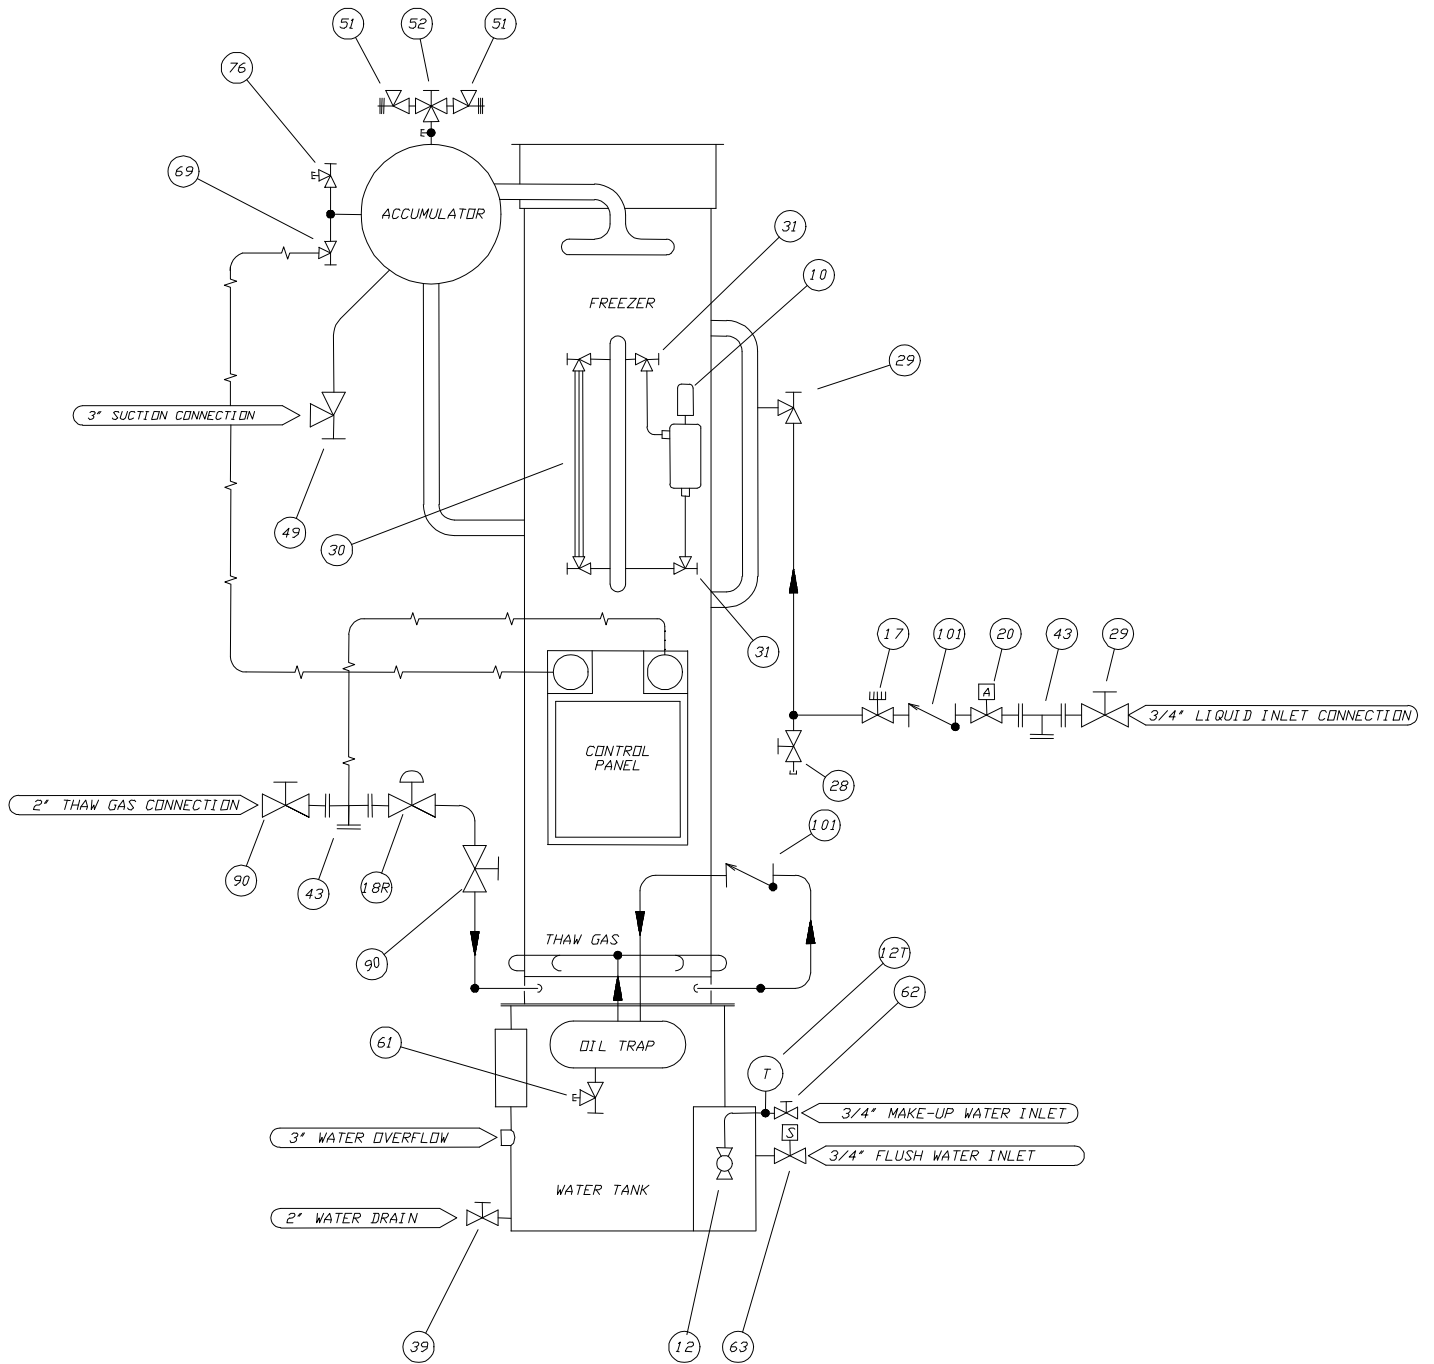

FIGURE 4-1
Operating Features. Your Tube-Ice[®] low side machine is an efficient ice producing plant. If installed and maintained properly, it will give many years of operation with a minimum amount of repairs. Refer to piping schematics, FIGURE 4-1 and 4-2 to identify component parts while following the information and instructions in this manual.
Refrigeration System Review. The refrigeration system uses R-22 refrigerant. Following the piping schematic (Figure 4-1 or 4-2), you will see that during the machine's freeze cycle, the compressor discharge gas goes through the oil separator (14) to remove any oil present in the discharge gas and return the oil to the compressor crankcase. From the oil separator, the discharge gas continues through a heat coil in the lower part of the condenser/receiver (15). It is then discharged into the condenser and condensed into a liquid by the removal of heat by water passing through the condenser tubes. A reservoir of liquid refrigerant is accumulated in the receiver and is required for thawing purposes. Liquid from the receiver flows through the filter drier (46), and the heat exchanger (13), to the "A" solenoid valve (20A), which opens and closes by action of the capacitive level probe (65). The liquid is then expanded through the hand expansion valve (17) and into the evaporator (2) (freezer). The liquid is also fed through a bypass line and the constant feed solenoid valve (20B), which is open through the freeze cycle. The cold wet refrigerant floods the evaporator and is in contact with the outside of the ice making tubes which water is being circulated through. The heat contained in the water passes through the wall of the tubes, lowering the temperature of the water causing it to freeze and form a long tube of ice that adheres to the inside of freezer tubes. Since the purest water freezes first, the circulating water continues to wash the dissolved solids down into the sump area of the water tank. The flushing valve (63) helps to rid the water tank of increased dissolved solids by flushing them out the overflow during the harvest (thawing) period.